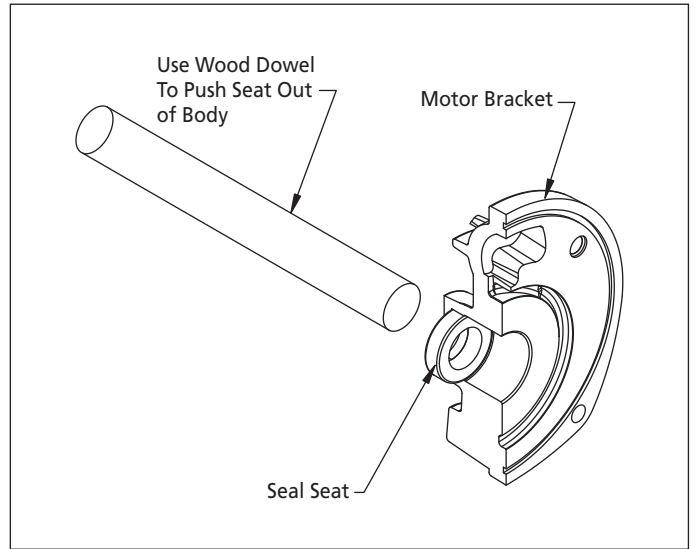

Figure 6 - Seal Seat Removal
5. Remove the motor bracket, and push out the seal seat with a wooden dowel to remove the seal seat (See Figure 6).